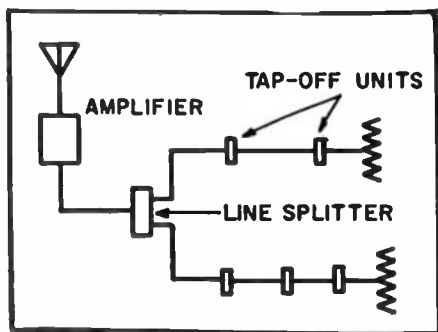

FIG. 2: SCHEMATIC DIAGRAM of distribution system employing line splitter for use in homes where one-line wiring is impractical.
**FIG. 2: COMPARISON OF GUN STRUCTURES** of conventional and SF tubes. Note that the filament, cathode and  $G_1$  are mounted horizontally in the SF tube on the right, rather than vertically as in the standard tube at left.
The methods discussed and illustrated up to this point utilize only a single line, which covers most homes quite well. When the home layout is such as to render one-line wiring impractical, the line can be split, as in Fig. 2. The line splitter is a two-set coupler, but of a special kind, one which shows *source* match, so that all terminals look like 300-ohm impedance. In this installation, both lines are terminated, as indicated by the zig-zag lines at the ends.